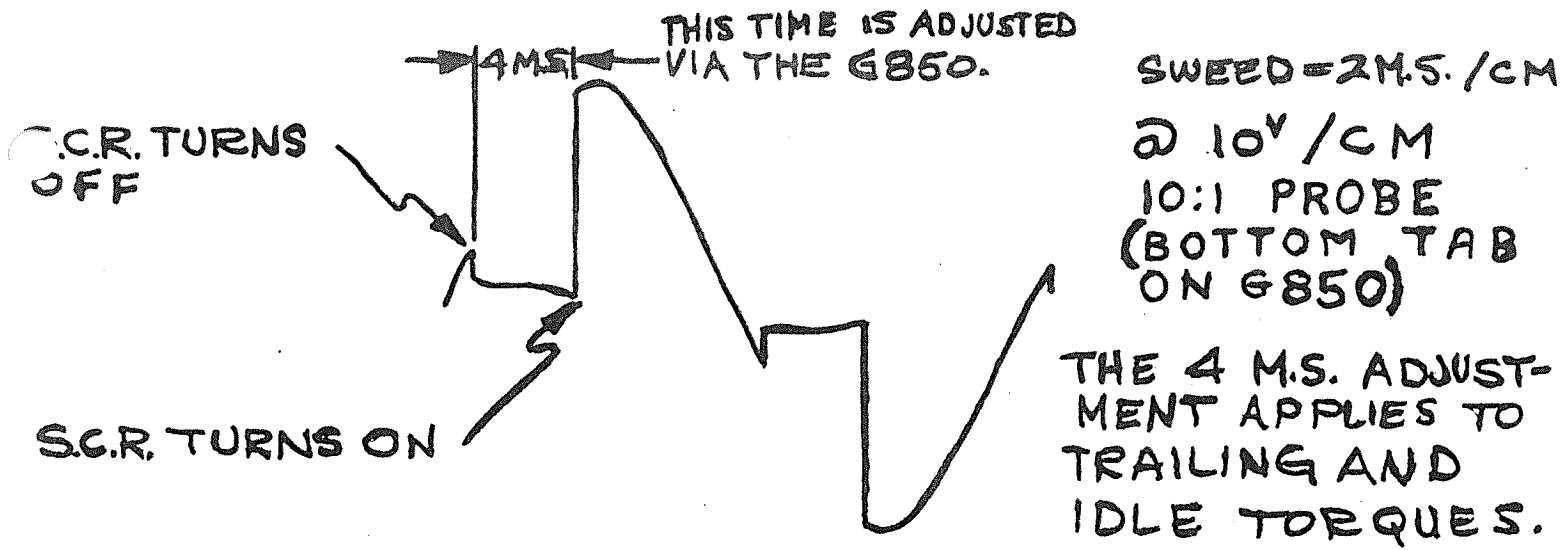
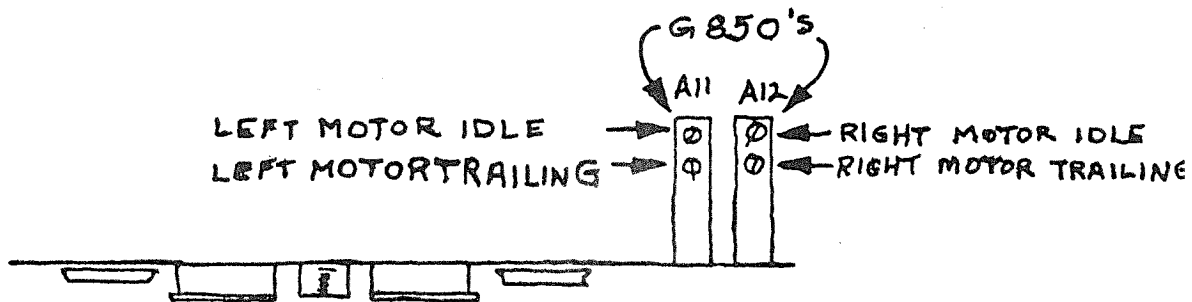

FIG. 1
FIG. 2
- A. Without tape on the transport, apply idle torque to the motor. With a scope, observe the bottom tab terminal on the rear of the G850. Set the scope to 2 M.S./C.M. at 10v/CM. The waveform should be similar to what is shown in Fig. 1. If it is not, make the necessary adjustments shown in Fig. 2.